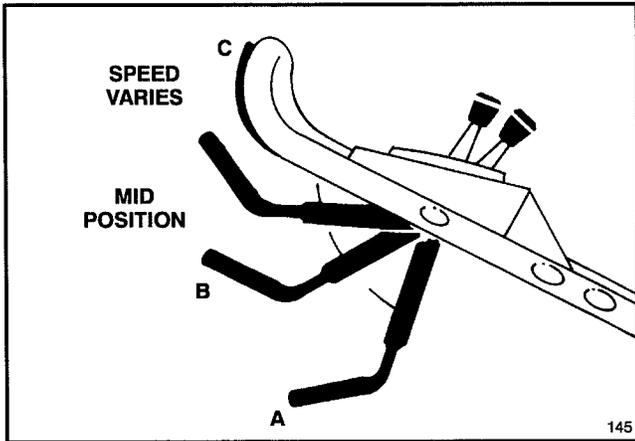

Figure 9
4. **BLADE AND TRACTION OPERATION** (Fig. 9)—Move control bar down to "A" and raise to "B" to engage blade. Squeeze control bar against handle "C" to drive. To disengage traction drive but keep blade engaged, gradually release control bar to mid position. To self-propel with blade disengaged, simply squeeze control bar against handle, eliminating downward movement necessary for blade engagement.
5. **STOPPING** (Fig. 9)—Release control bar to stop blade and traction drive. Move ground speed control to "N". To stop engine, move throttle to  (OFF). Pull wire off spark plug if mower will be unattended or not used.